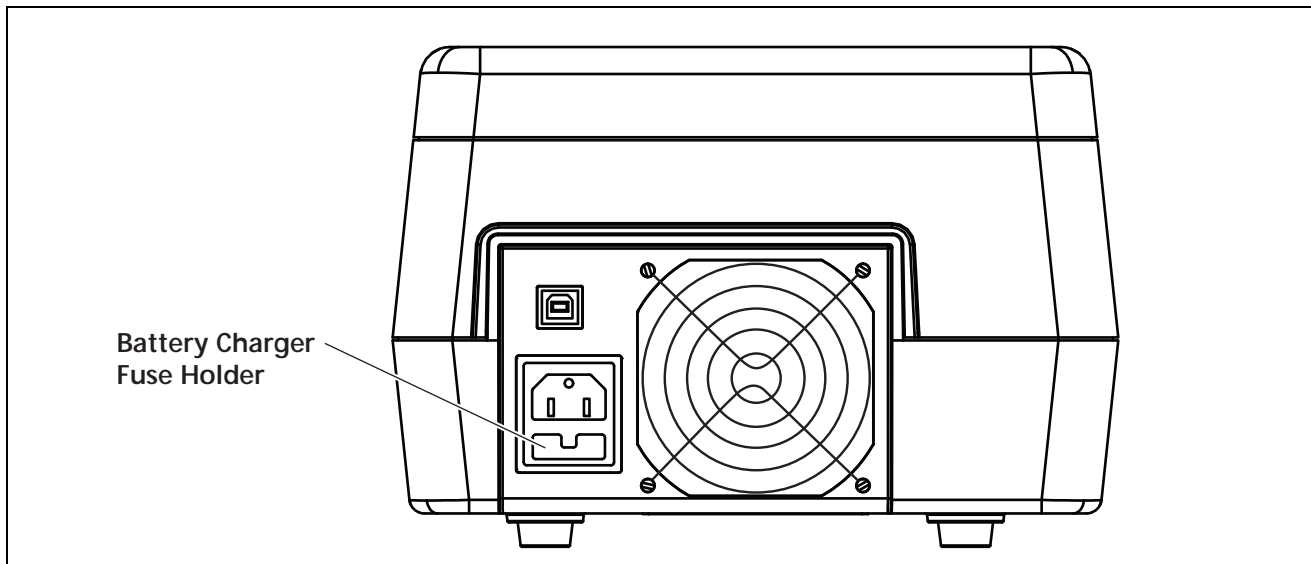

Figure 6-1 Battery Charger Fuse Location
2. The fuse holder is located directly under the power receptacle on the back of the Battery Charger (see Figure 6-1). Open the fuse holder by pressing down on the locking tab and pulling the fuse holder straight out.